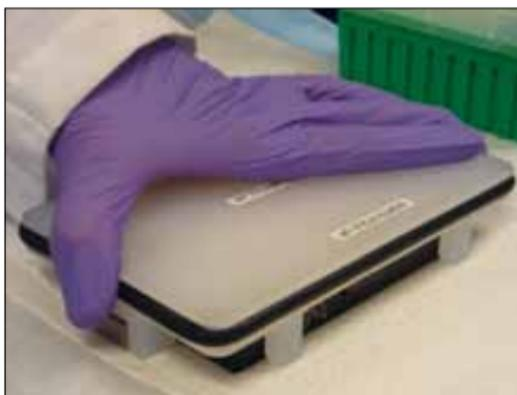

Fig. 5. Blotting the plate.
- 2.4 To remove any excess liquid from the wells, and to prevent well-to-well contamination, keep the magnet inverted and pat or tap gently on a paper towel as shown below (Figure 5).